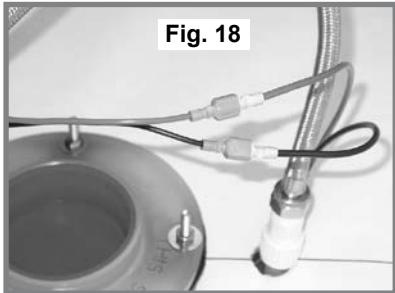

Fig. 18
STEP 17: Connect the **positive (+)** 12 VDC wire to the red power wire that's connected to the toilet base. Connect the **negative (-)** 12 VDC wire to the black wire (fig. 18).